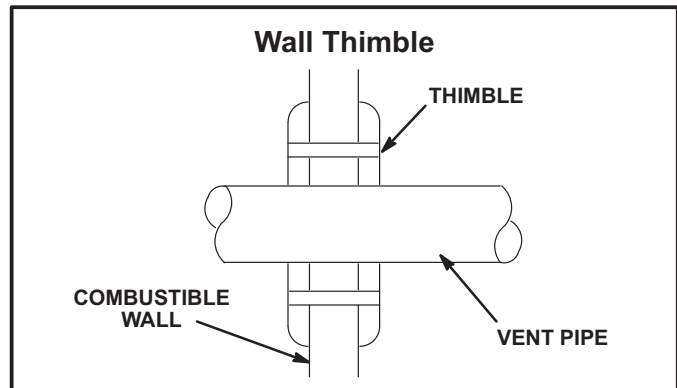

Figure 7
- 8 - The vent may pass through a wall where provisions have been made for a thimble as specified in the Standards of the National Board of Fire Underwriters. See figure 7.